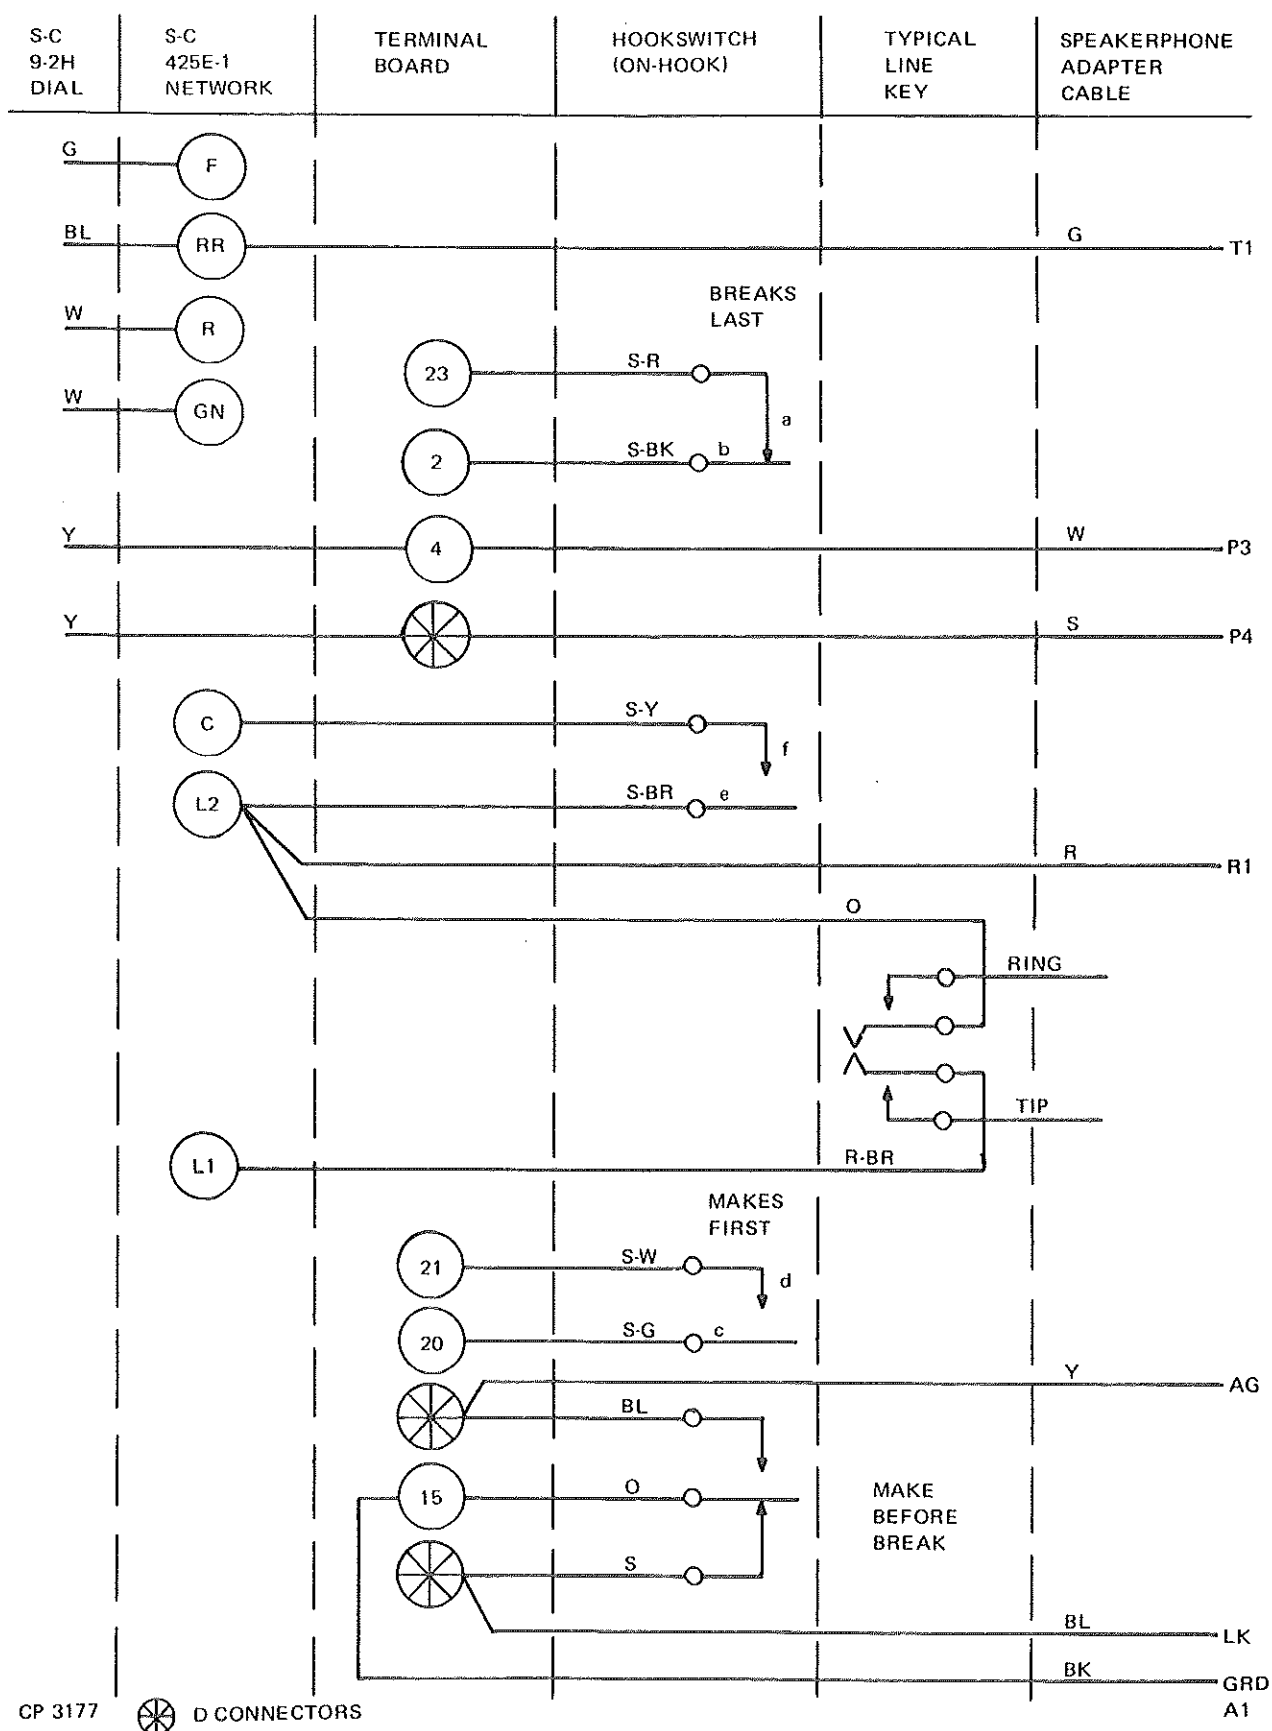
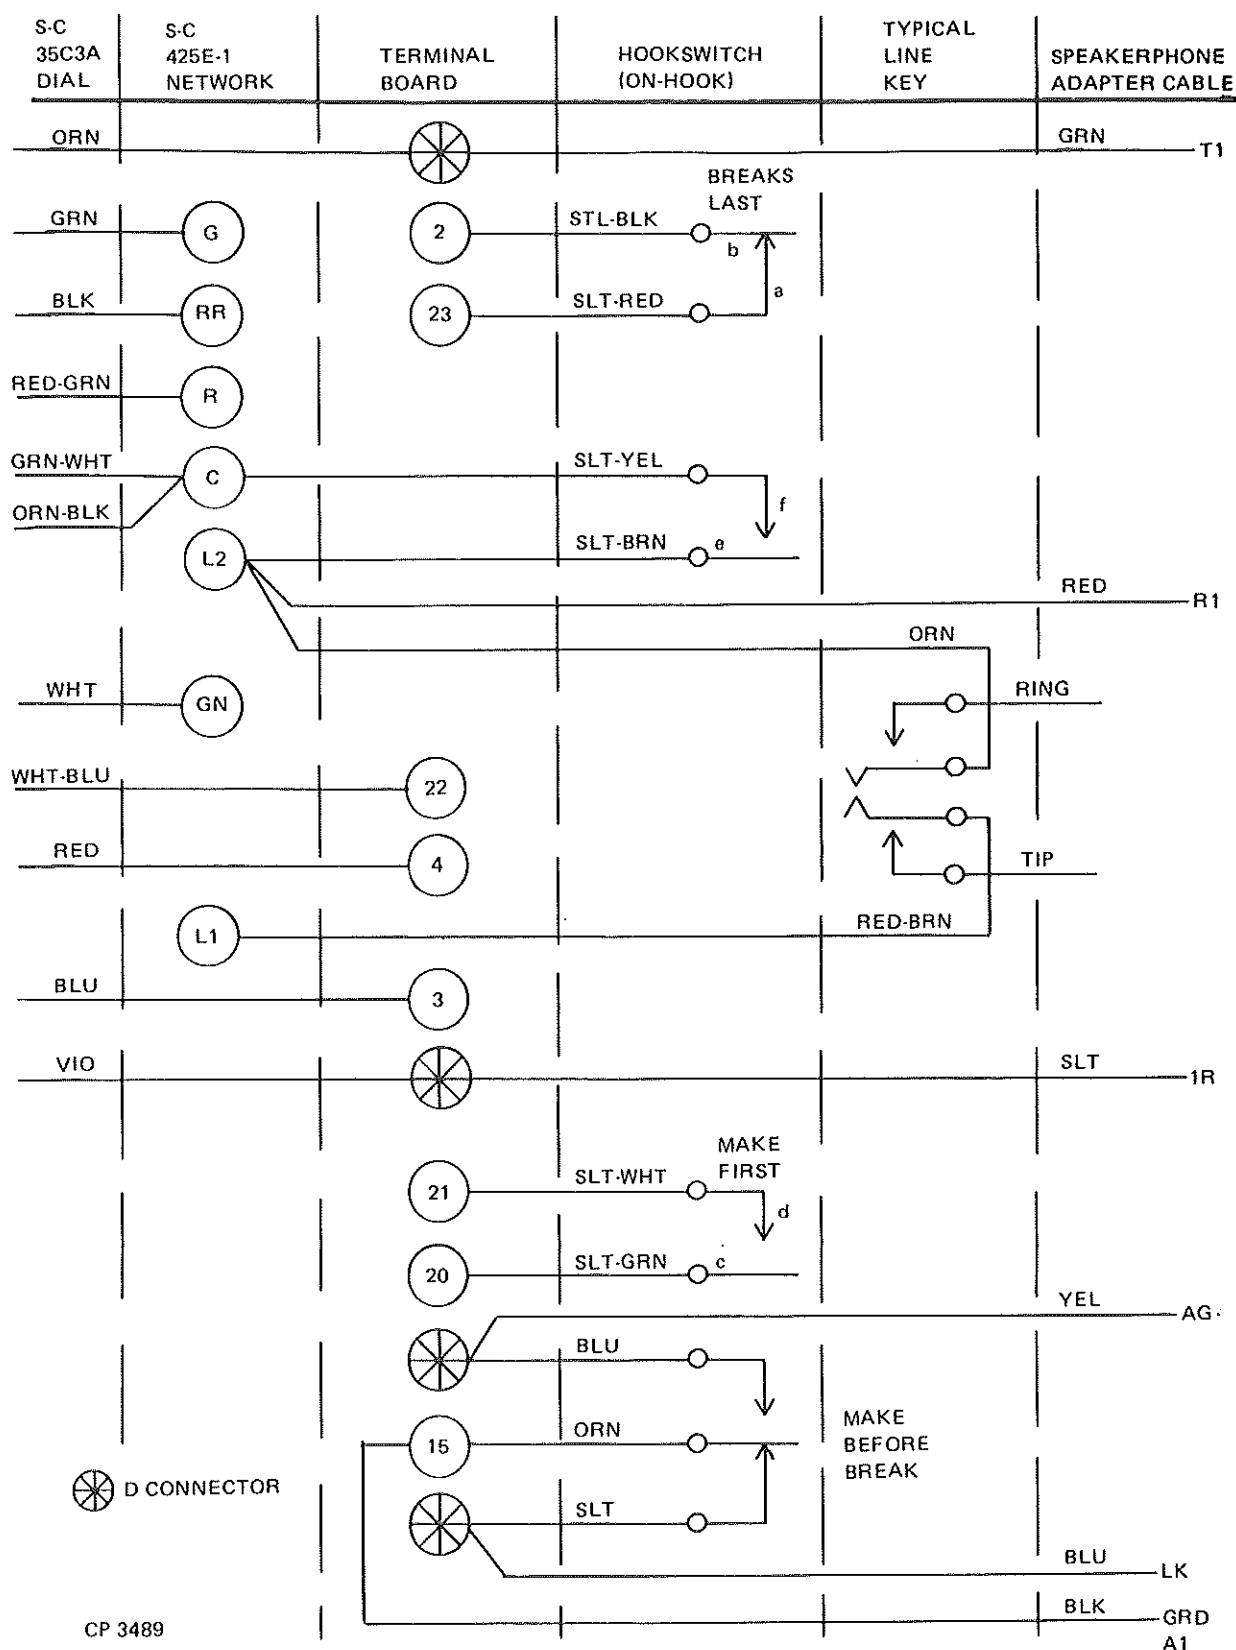

Figure 9. Speakerphone Connections for S-C 1800 Series Telephones
Figure 10. Speakerphone Connections for S-C 2800 Series Telephones
- d. Connect dial leads as indicated in table 3 or 4 and figure 9 or 10.
f. Terminate other end of adapter cable on connecting block assigned to speakerphone leads. Enter terminal assignments in table 3 or 4 as appropriate. Figures 9 and 10 show speakerphone terminations in the telephone with dial installed.
- f. Reconnect dial leads as shown in figure FO-1 (rotary-dial) or figure FO-2 (pushbutton-dial). If speakerphone dial is used, refer to figure 9 (rotary-dial) or figure 10 (pushbutton-dial).